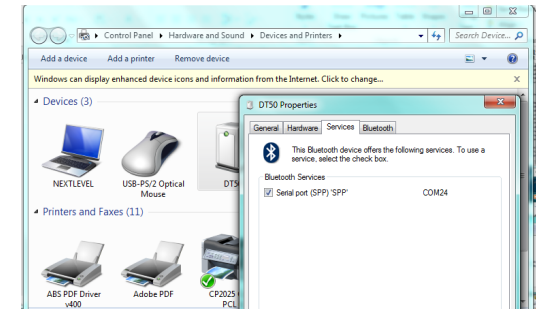

Figure 3
After the DT50 has been successfully added to your PC available Devices and Printers list you can right click on the DT50 properties. This displays the SPP service now available with your DT50 and lists the outgoing COM port which has been assigned to the DT50. This is shown in Figure 3. Note: Windows will setup (2) Bluetooth COM ports for you; one is for incoming connections and one is for outgoing connections. You will utilize the outgoing connections port later in this guide.